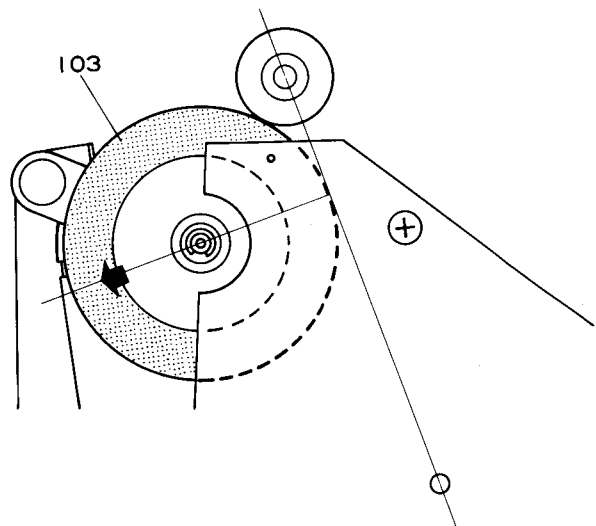

Fig. 10
*** IDLER PRESSURE ADJUSTMENT** (Refer to Fig. 10)
- (1) Supply power and shift the function selector knob (005) in playback position.
- (2) Shift the shut-off switch (SW7) in ON position by pressing the shut-off switch lever (104).
- (3) Pull the idler (103) in the direction at right angle to the line connecting the center of capstan shaft and motor pulley shaft.
- (4) If the set is normal, the pressure of the idler is 300 ± 50 g.
- (5) If the pressure is out of this range, adjust it by idler lever spring (109).